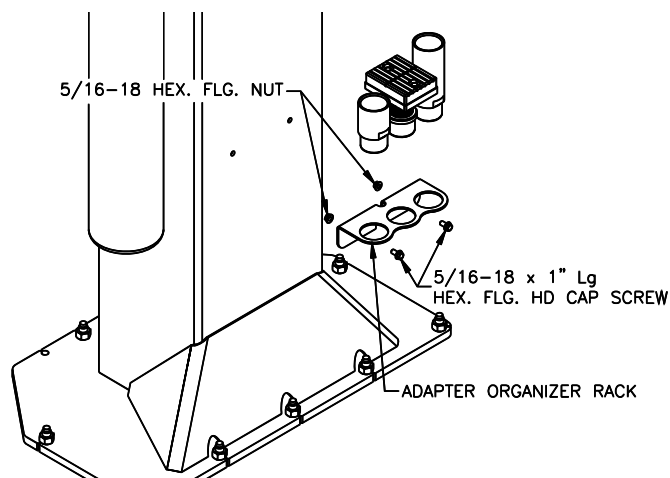

Fig. 20 – Adapter Rack Installation
- 63) Locate the two pre-drilled holes on the back of each column 19" up from the top of the base plate. Center the adapter rack and attach with 5/16"-18NC x 1" Lg hex flange cap screw and 5/16" hex flange nut (**Fig.20**).